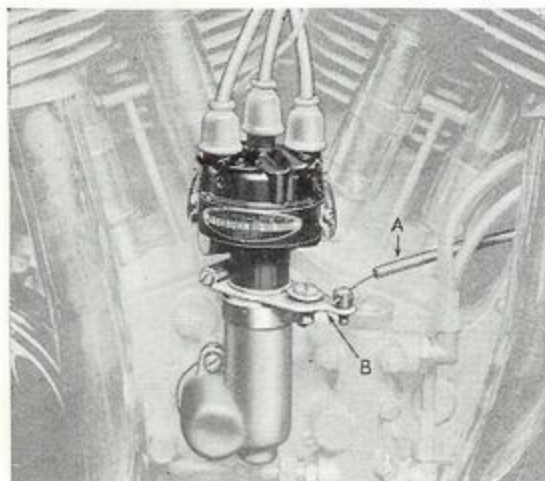

Figure 8
**Spark Control (Distributor Ignition)**—Pass the flexible casing for spark control "A" (Fig. 8) from the right handlebar to right of frame head and through clip on lower front tank bolt. Also pass casing through clip attached to clamp around ignition coil and attach control wire to advance arm at "B". **Note:** on Models 536-636, pass casing through clip on upper front of crankcase—right side. With the right grip turned in (toward the left) as far as it will go and the advance arm in the advanced position (nearest the motor), tighten casing clip at tank bolt and ignition coil. Test by turning right grip in and